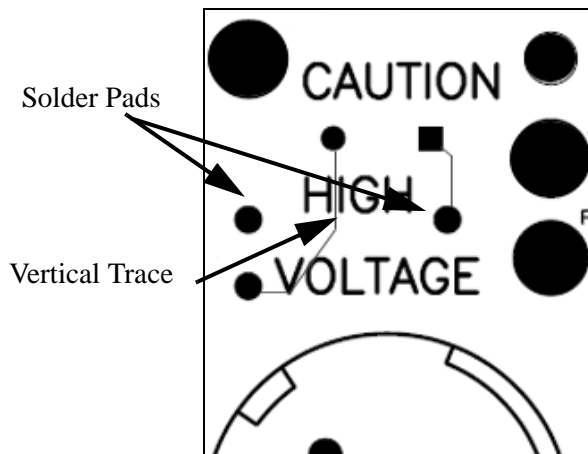

Figure 3. Tinned Jumper Wire Placement for Boards Rev H, J, K, L
1. **For Boards Rev H, J, K, L:** Place tinned jumper wire (supplied) between the two solder pads located on either side of the word "HIGH," see Figure 3. Care must be taken to ensure insulation covers the vertical trace that the jumper crosses.